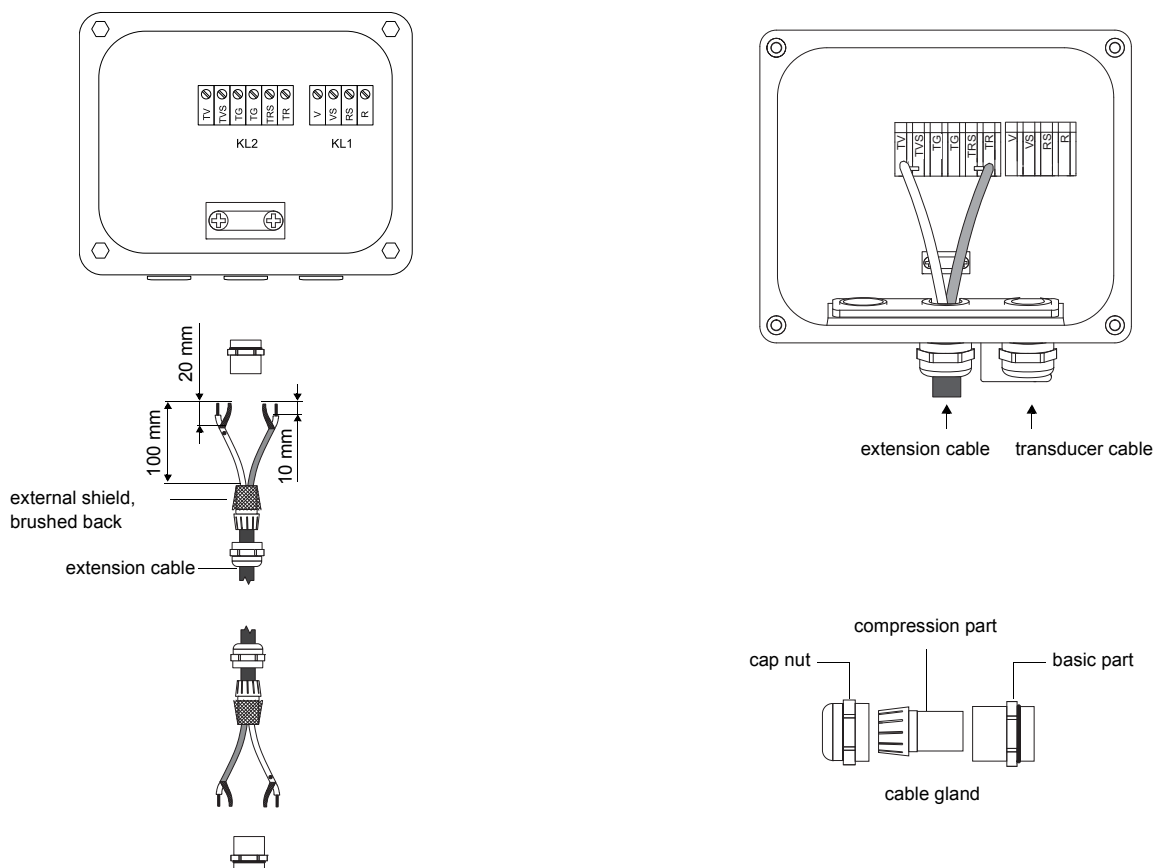

Fig. 7.11: Connection of the extension cable to the junction box
- Remove the blind plug for the connection of the extension cable (see Fig. 7.11).
- Connect the extension cable to the terminals of the transmitter (see Fig. 7.11 and Tab. 7.6).